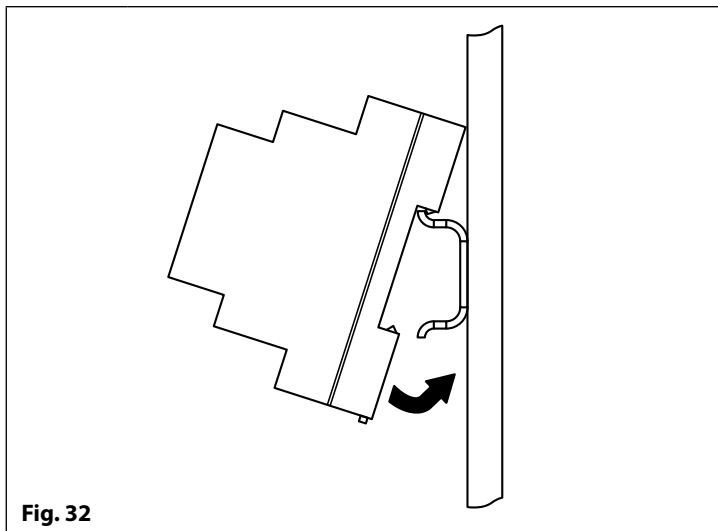
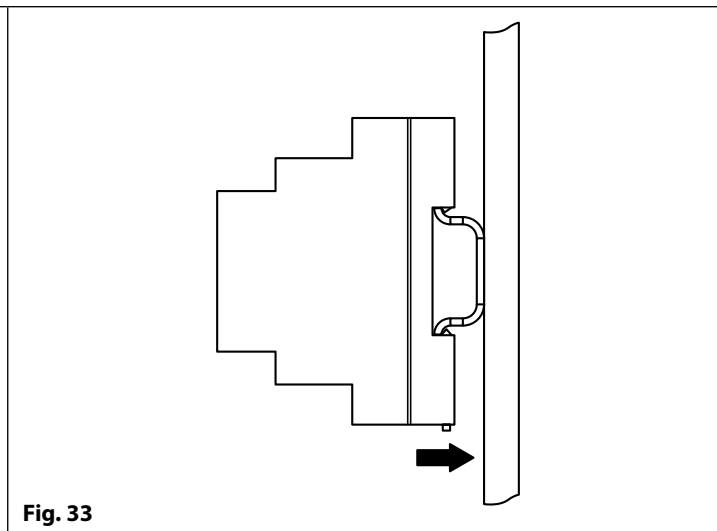
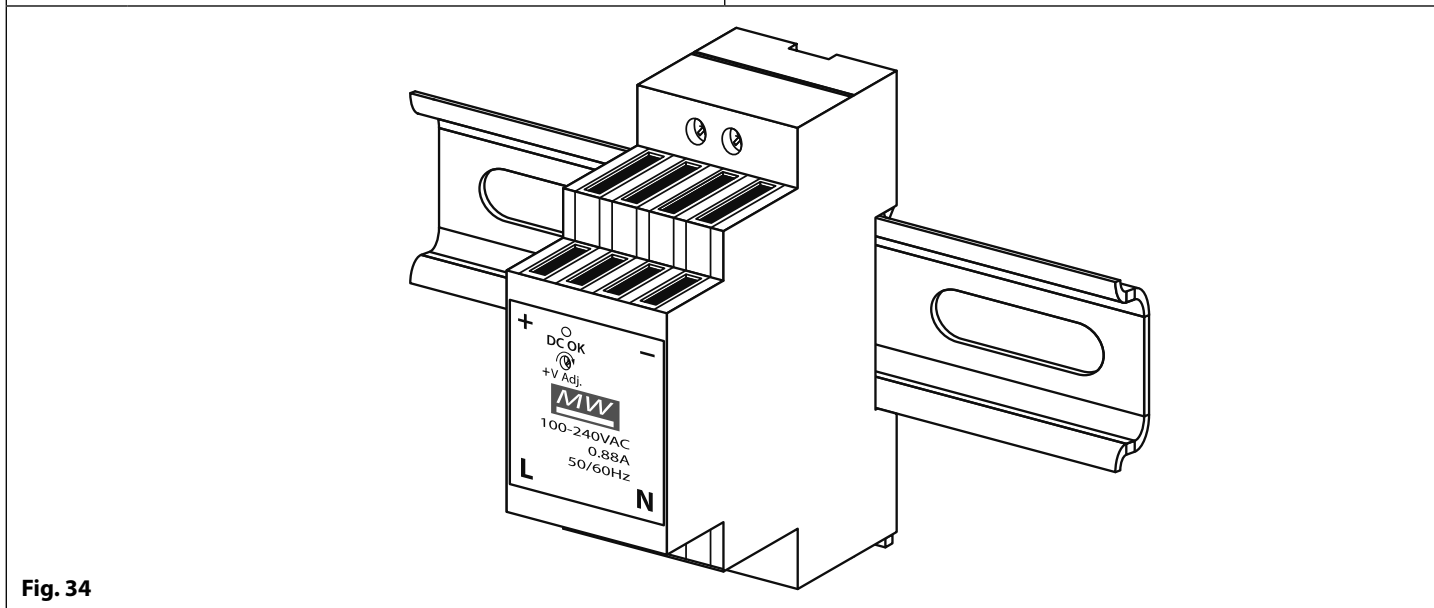

Fig. 32
Fig. 33
Fig. 34
- Fix the power supply to a DIN rail (following **Fig.32**, **Fig.33** and **Fig.34**).